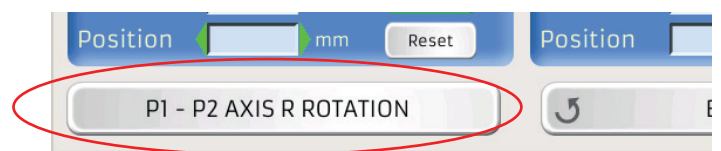

Figure 26 – Joystick button options
- By pressing the buttons on the joystick it is possible to use 3 different configurations, which may be selected via the touch screen display by pressing the icon, at the bottom left of the display highlighted in figure 26: